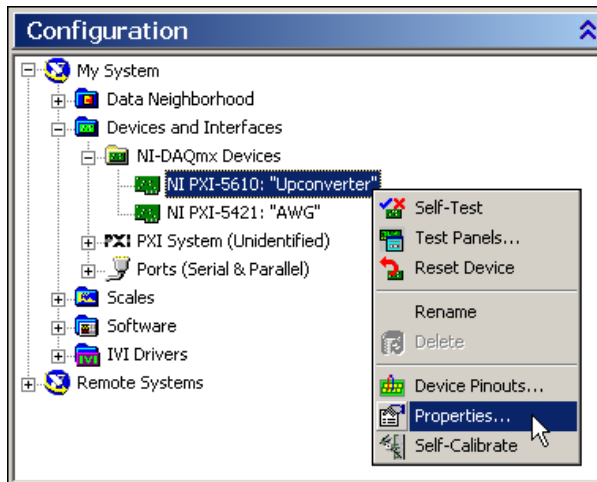

Figure B-1. Select Properties from the NI PXI-5610 Right-Click Menu
5. Right-click **NI PXI-5610** and select **Properties**, as shown in Figure B-1.